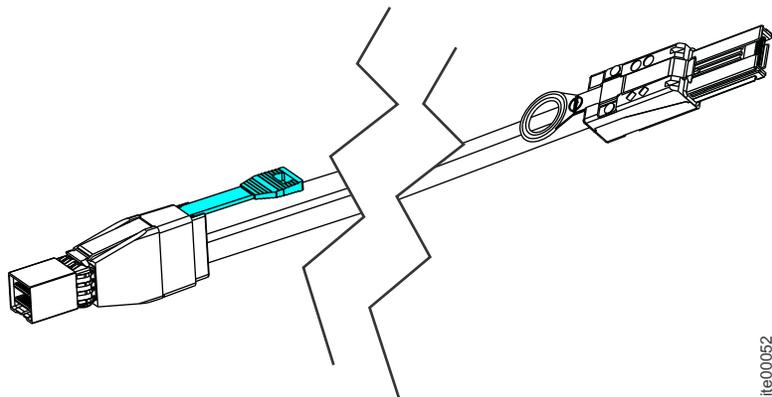

Figure 36. Mini SAS HD to Mini SAS cable
- Mini SAS HD to Mini SAS (Figure 36)